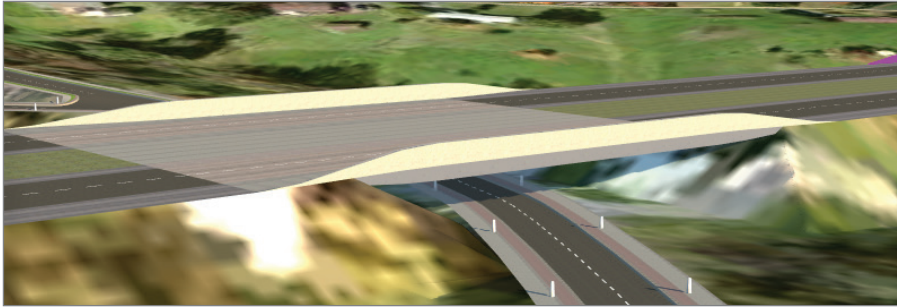

FIGURE 2.21 A bridge is represented using a style zone.
11. Press Esc twice to clear the selection. The bridge should now appear, as shown in Figure 2.21.